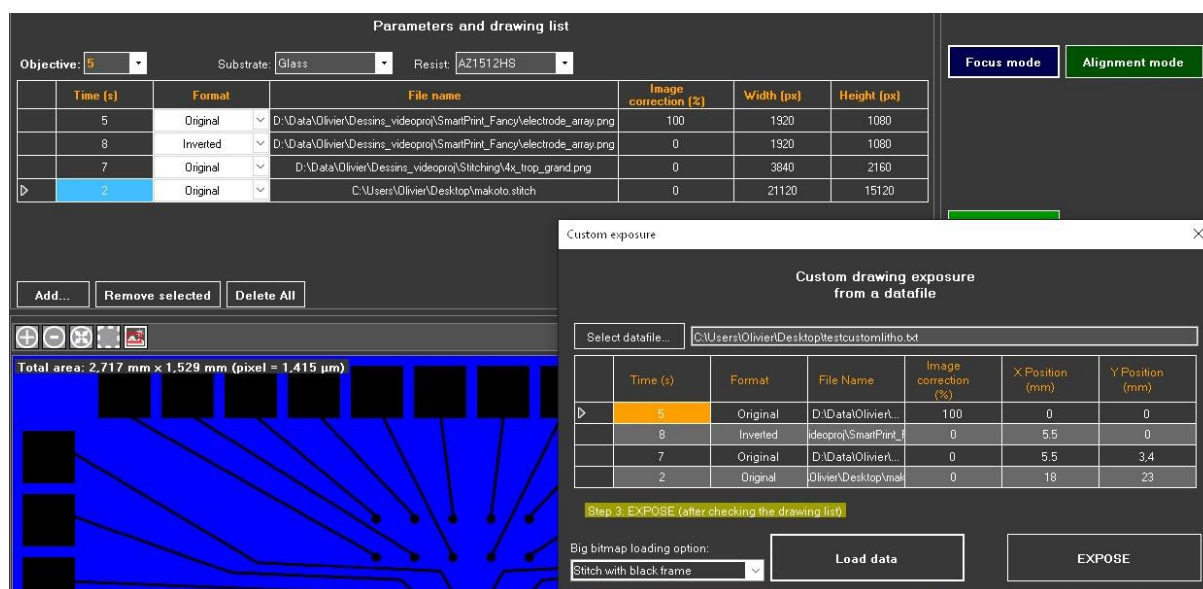

Figure 44 – Custom exposure: data loaded and ready for exposure
- Choose how big drawings must be considered by selecting the appropriate option on the drop-down list **Big bitmap loading option** then click on **Load data**. The list of drawing will update on the main window in the **Parameters and drawing list** panel (Figure 44)
- Click on **EXPOSE** in the **Custom exposure** window (Figure 44)